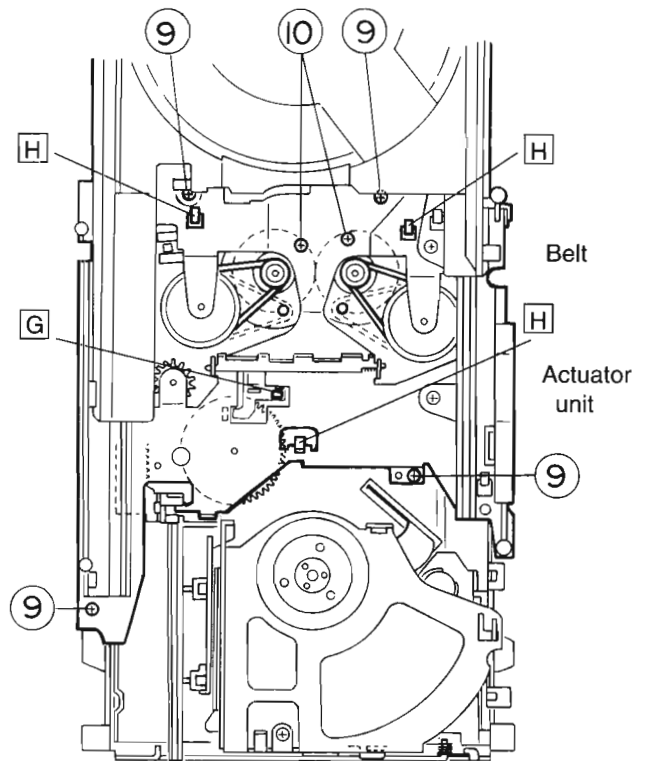

Fig. 18
2. Remove the CD tray together with the tray guide (R).
3. Remove the four screws **9** retaining the actuator unit (see Fig. 18).
4. Remove the two screws **10** retaining the tray & cam drive motor (see Fig. 18).
5. Hang the two belts remove from the tray and cam drive motor again to motor as shown in Fig. 18.